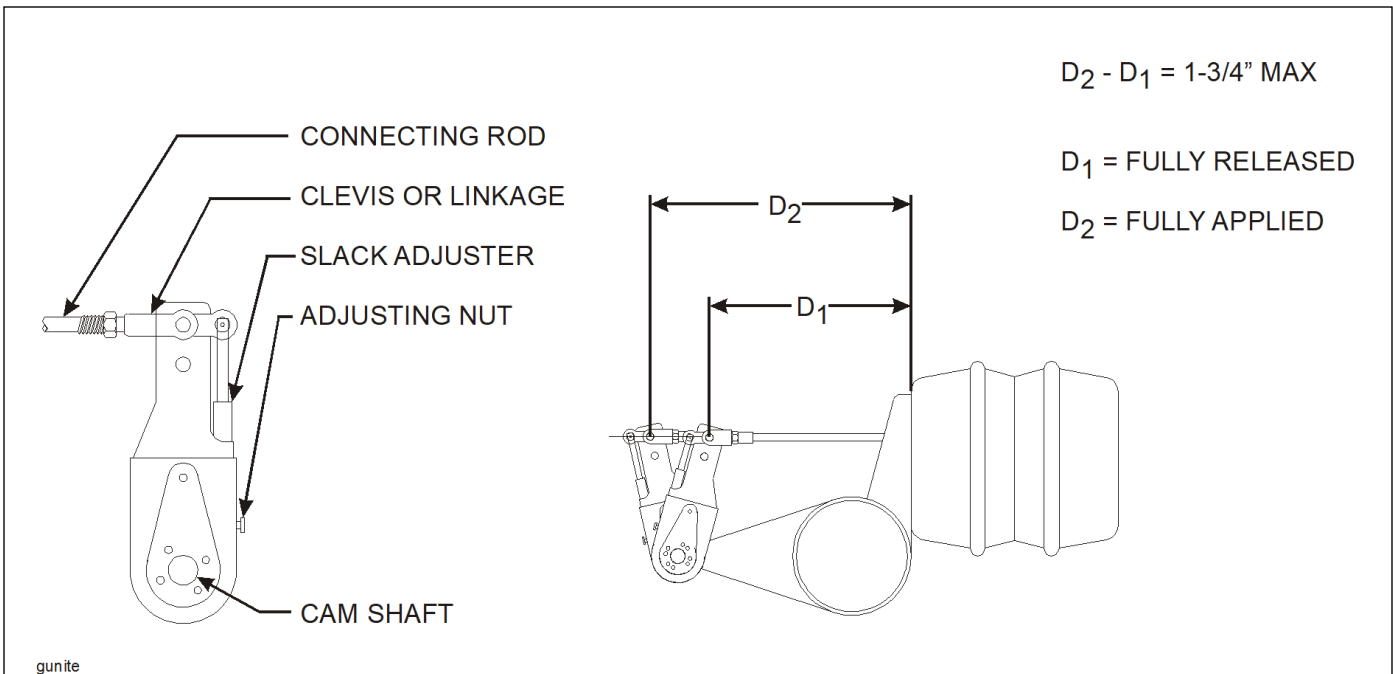

Figure 4-14: Checking Brake Adjustment
4. Remount the brake chamber on the axle brackets and reconnect the air service hoses and the slack adjuster connecting rod (See Figure 4-14.)
2. Measure the distance (D1) from the face of the brake air chamber to the center of the slack adjuster linkage pin (See Figure 4-14.)
7. Place a 9/16" box end or socket wrench on the slack adjuster adjusting nut (See Figure 4-14), and push in on the locking sleeve.